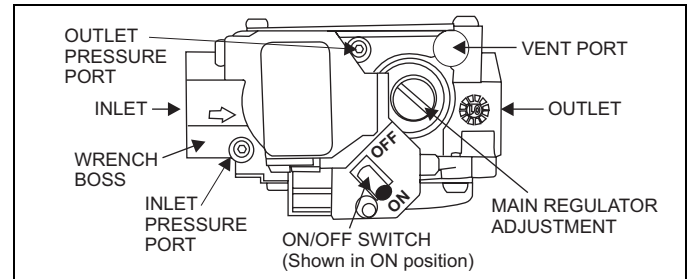

FIGURE 25: Gas Valve
Manifold gas pressure may be measured by two different procedures. It may be measured with the burner box cover in place or it may be measured with the burner box cover removed. Follow the appropriate section in the instructions below. Refer to Figure 25 for a drawing of the locations of the pressure ports on the gas valve.
1. Refer to Figure 25 for location of pressure regulator adjustment cap and adjustment screw on main gas valve.